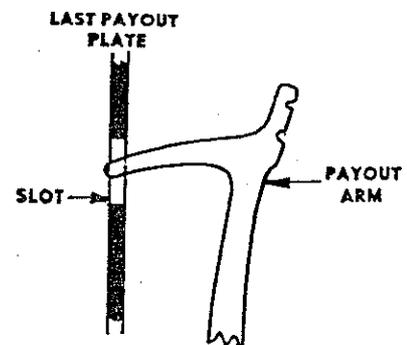

FIG.2
To ensure that payout arm tips are in centre of payout plate slots, condition (2), bring last reel in a slot payout arm engagement position, Fig 2. Should slot be off centre, loosen locknut of last stopper arm and turn eccentric boss to bring slot in required position, tighten locknut.